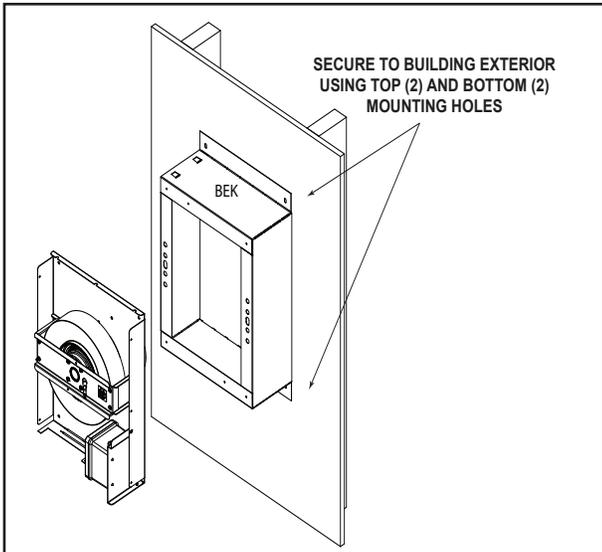
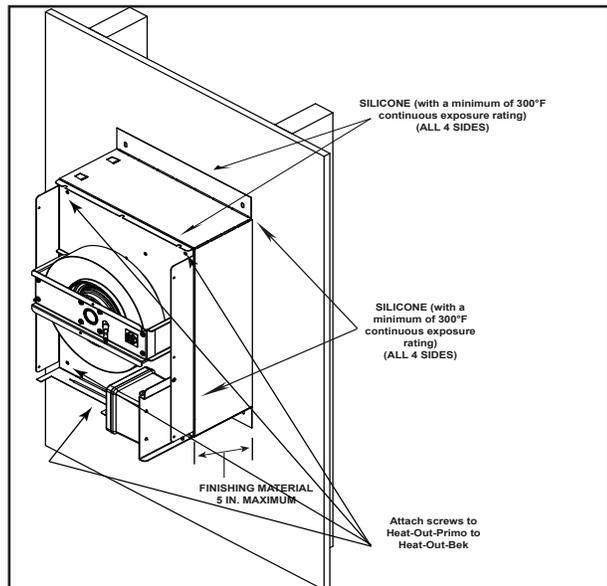

Figure 2.12 HEAT-OUT-PRIMO Attached to HEAT-OUT-BEK
Figure 2.13 Silicone Weather Sealing
13. Apply a bead of silicone (with a minimum of 300° F continuous exposure rating) around the entire metal flange of the HEAT-OUT-PRIMO. See Figure 2.14. Align with HEAT-OUT-BEK as shown in Figure 2.12. Ensure cap is level and square, then secure HEAT-OUT-PRIMO to HEAT-OUT-BEK as shown in Figure 2.13.
14. After the HEAT-OUT-PRIMO has been secured to the HEAT-OUT-BEK, silicone (with a minimum of 300° F continuous exposure rating) should be applied around outer edge of HEAT-OUT-BEK where it meets the building exterior. Silicone (with a minimum of 300° F continuous exposure rating) should also be applied where HEAT-OUT-PRIMO and HEAT-OUT-BEK meet, as shown in Figure 2.13. If installing with HEAT-OUT-BEK skip to step 17.